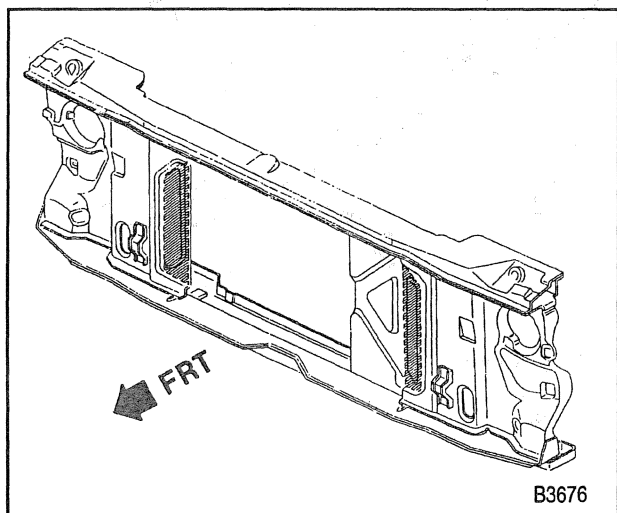

Figure 21—Radiator Support
6. Fender to the radiator support bolts (figure 21).